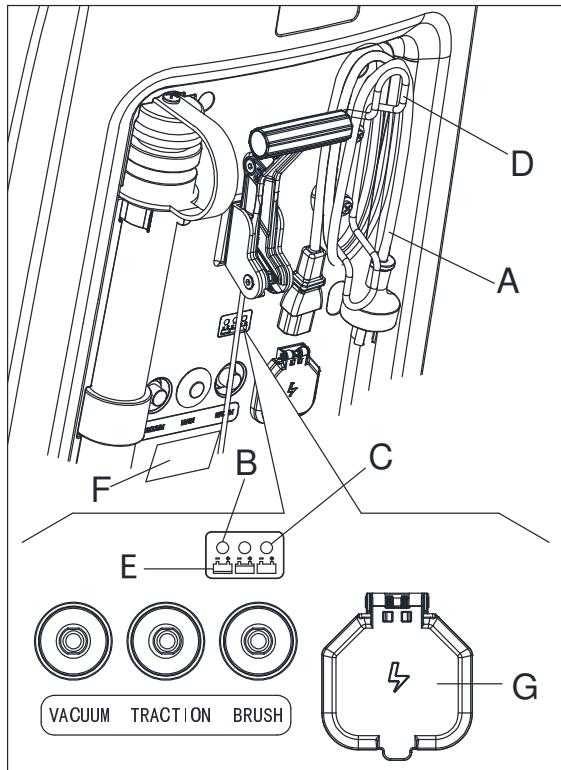

Figure 15
7. Connect the battery charger cable (A, Figure 15) to the electrical mains (G) (the electrical mains voltage and frequency must be compatible with the battery charger values shown on the machine serial number plate (F). When the battery charger is connected to the electrical mains, all machine functions are automatically cut off. If the red warning light (B) on the battery charger control panel stays on, the battery charger is charging the batteries.
8. When the green warning light (C) turns on, the battery charging is completed.
9. When the battery charging is completed, disconnect the battery charger cable (A) from the electrical mains (G) and wind it round its housing (D).
For further information about the operation of the battery charger (E, Figure 15), see the relevant Manual.